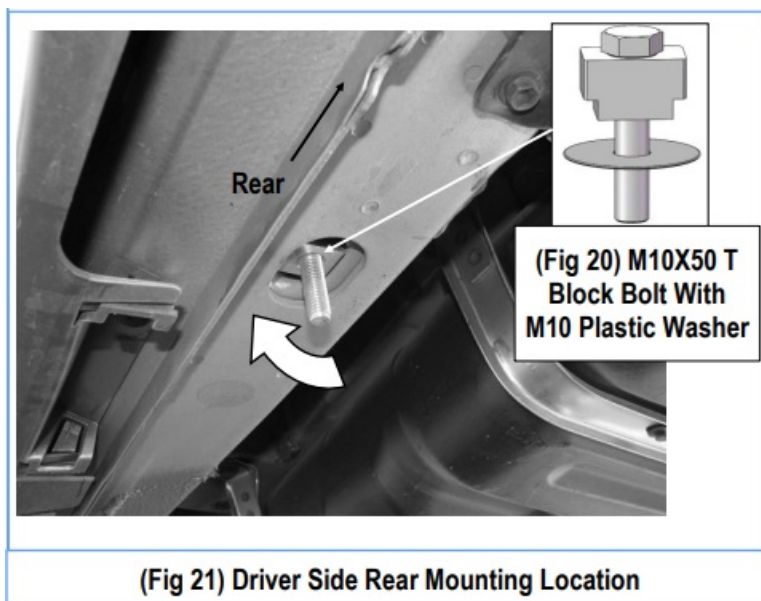

Fig 18
**IMPORTANT:** The Center and Rear Brackets are similar but different, (Fig 18).